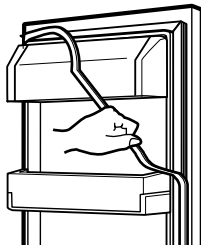

Figure 3
▶ Right Door -FIG. 3
1. Open door. Loosen top hinge cover screw (1). Lift up cover (2).
3. Rotate hinge lever (3) clockwise. Lift top hinge (4) free of hinge lever latch (5).